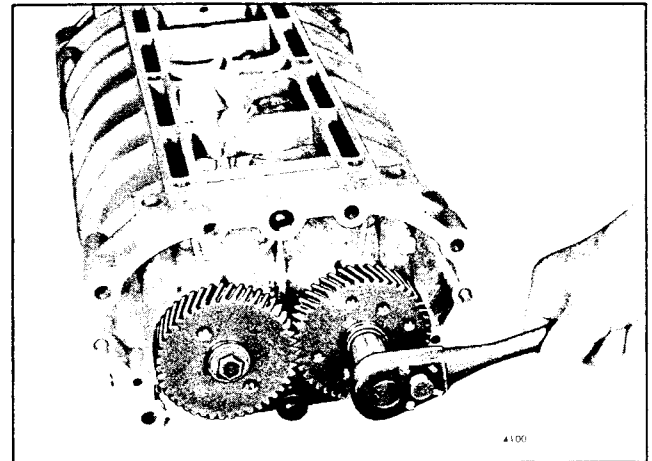

Fig. 17 - Installing Blower Rotor Gears
- g. Place the rotor gear pilots (43) on two 3/8" -24 x 2-3/4" bolts, then thread a bolt into the end of each rotor shaft. Place a clean shop towel between the rotors and one between the rotor and the housing (Fig. 17) to prevent the gears from turning. Then draw the gears approximately half-way on the rotor shafts.